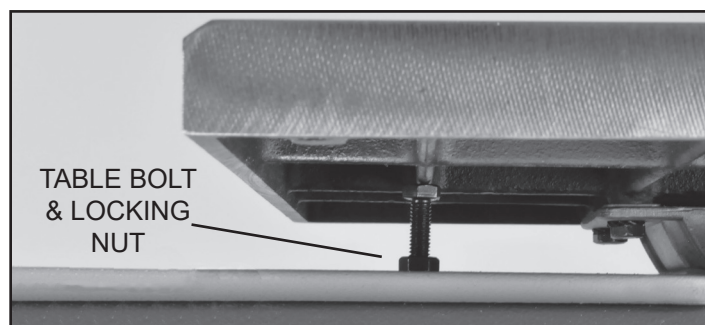

FIGURE 13
3. Make sure that the 90° Table Rest Bolt (#87) is not interfering with this process. Loosen the bolt's Locking Nut (#86) and screw the bolt downward, away from the underside of the table. FIG. 13.
6. Retighten the table rest's locking nut making sure that the 90° table angle setting is maintained. FIG. 13.